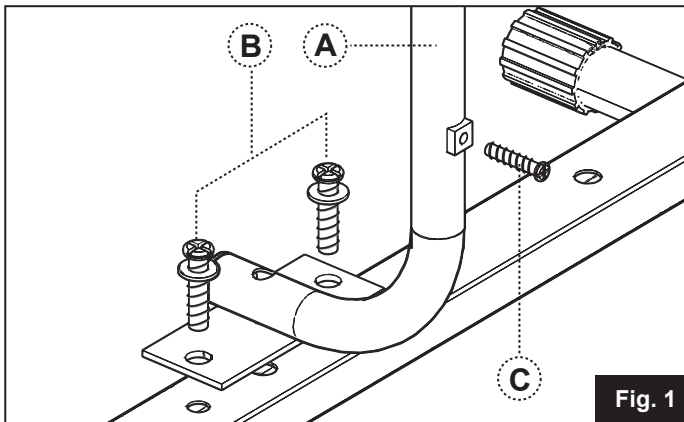

Fig. 1
STEP 1. CENTER HANDLE ASSEMBLY (FIG. 1)